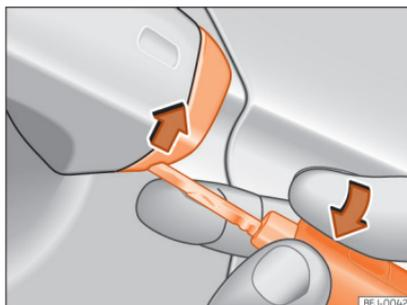

Fig. 96 Driver door handle: lever the cover off
- Insert the key shaft into the lower opening in the cover on the driver door handle » Fig. 96 then remove the cover upwards.